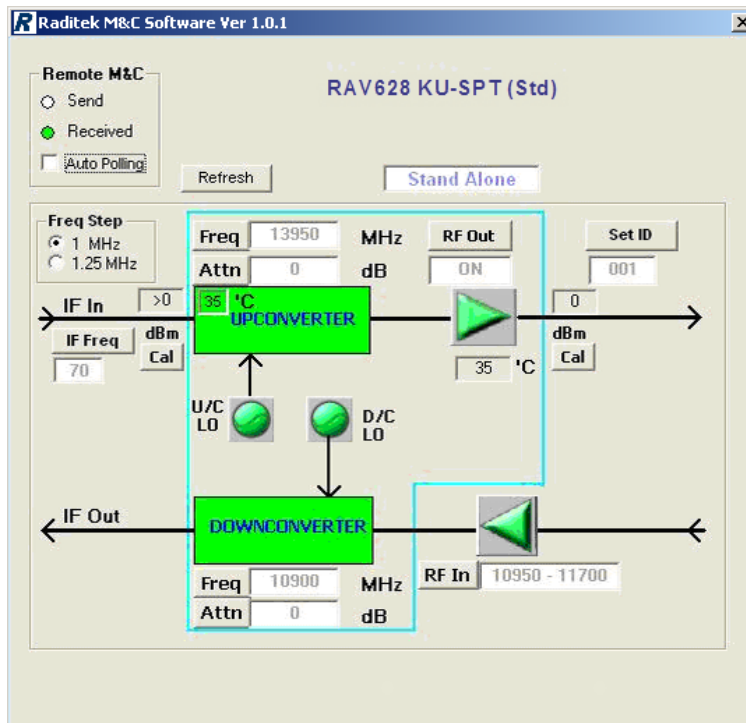

Figure 2-13: Main Display for Ku-SPT (stand-alone mode)
- Figure 2-13 to Figure 2-21 display the Control Mode main screen for the following product models: Ku-SPT, C-SPT, FC-SPT, EC-SPT, X-SPT, Ku-BUC, C-BUC, RUC28 and OHT respectively (with Booster Model set to None or RAAxxxxxx).